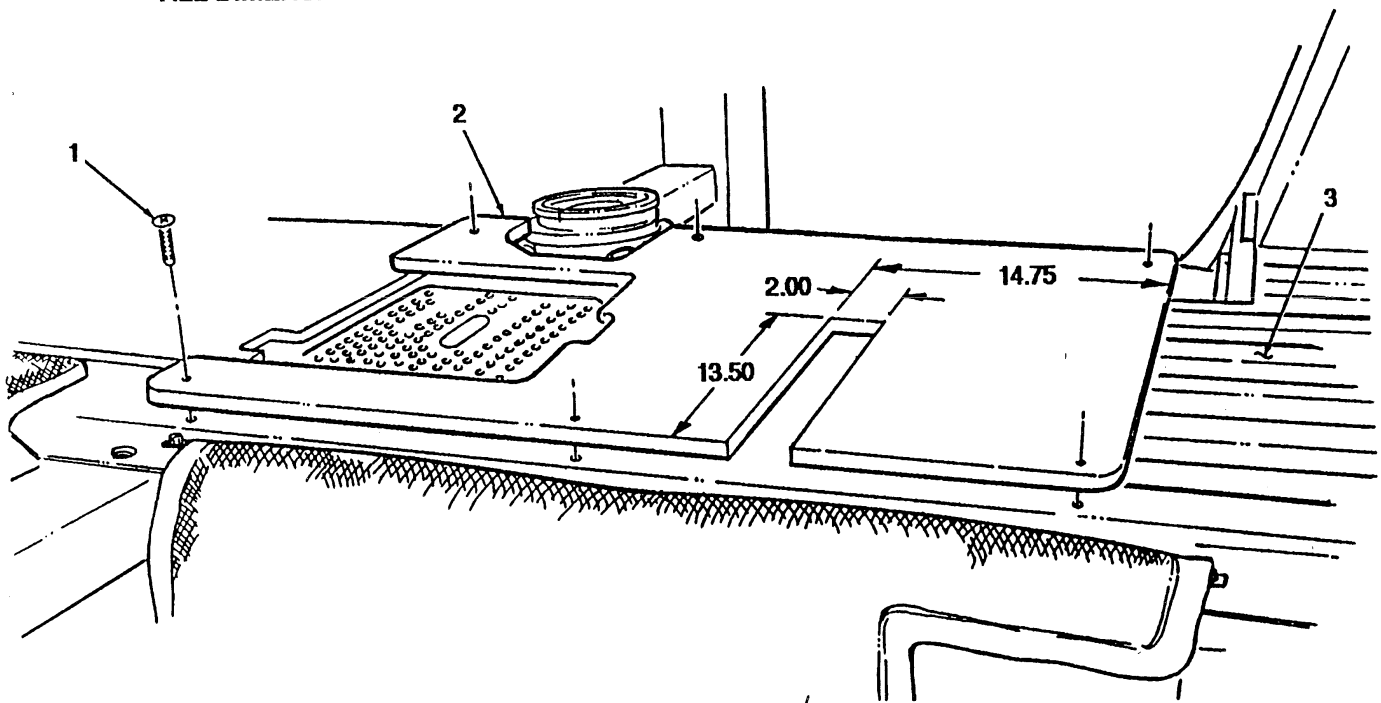

FIGURE 4-3
2. Cut a section from the insulation board (2). (see figure 4-3)
3. Position insulation board (2) on tunnel floor (3) and secure with six existing screws (1).